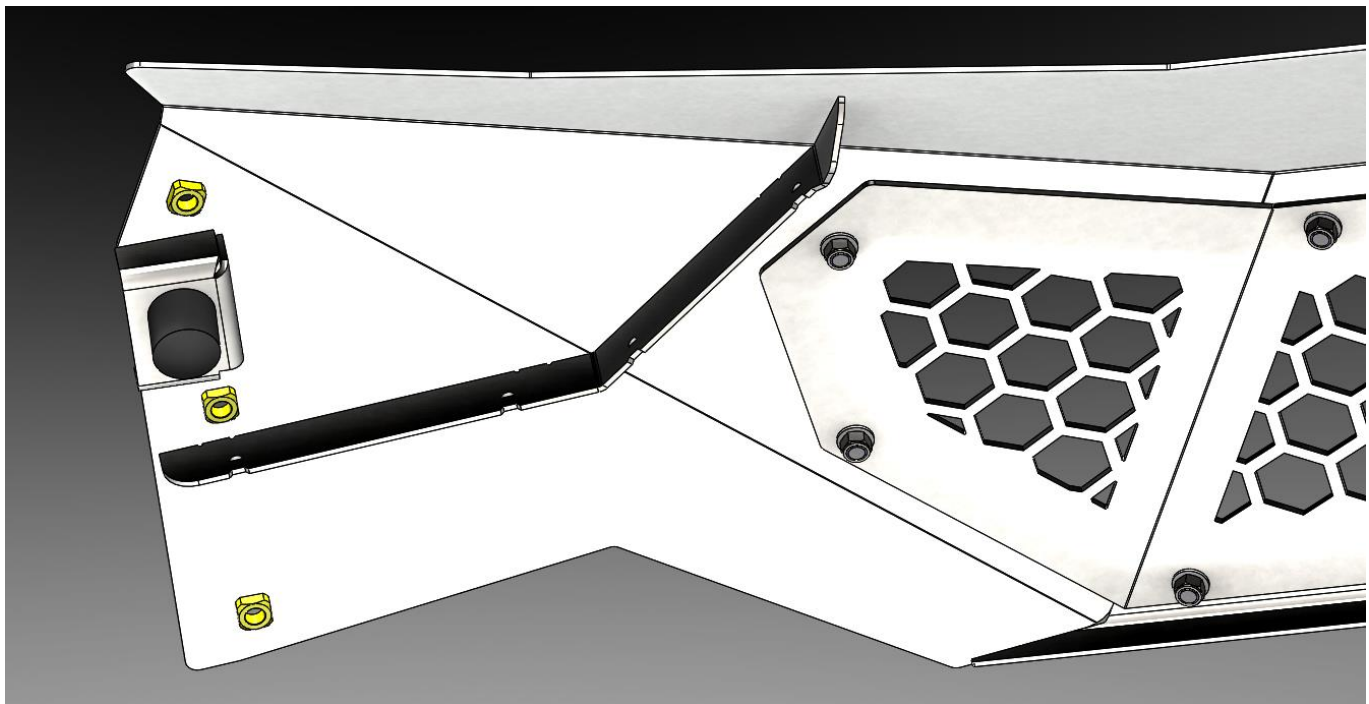

Fig 10
- a. Install and hand tighten the rubber bumpers and $\frac{1}{2}$ " flat washers to the visor as shown in **Fig 10**.